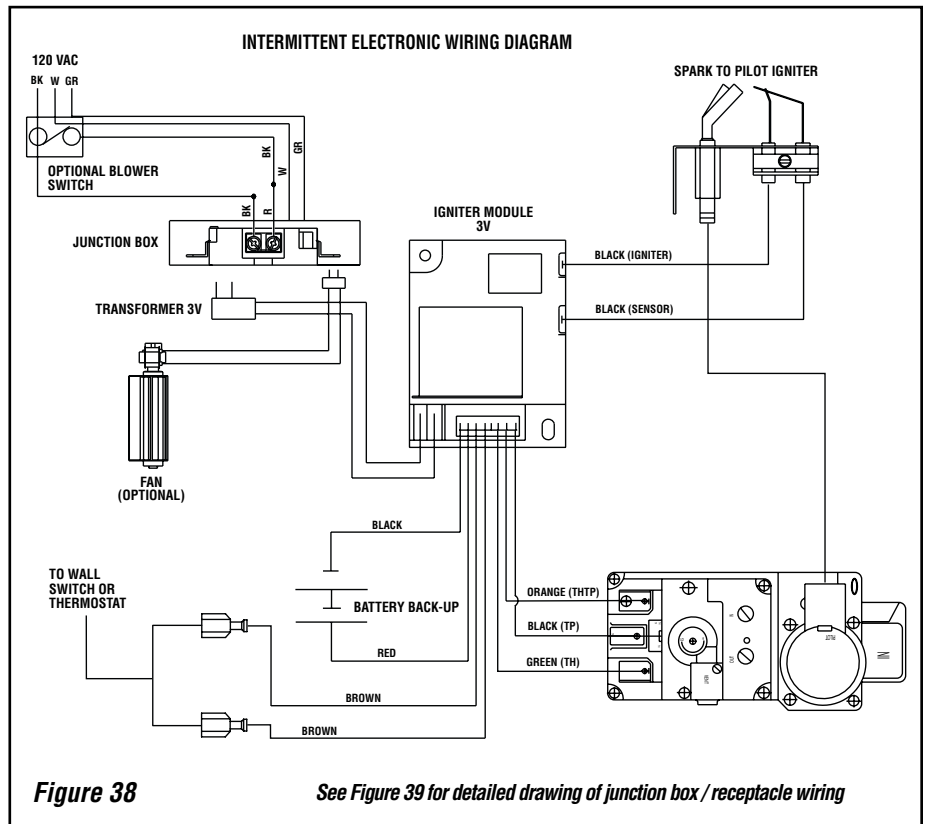

Figure 38
Ground supply lead must be connected to the wire attached to the green ground screw located on the outlet box. See Figure 38. Failure to do so will result in a potential safety hazard. The appliance must be electrically grounded in accordance with local codes or, in the absence of local codes, the National Electrical Code, ANSI/NFPA 70-latest edition. (In Canada, the current CSA C22-1 Canadian Electrical Code).
B. Electronic Wiring (See Figure 38) –
4. Connect the black power supply wire to the lower outlet's red pigtail lead and the white power supply wire to the common terminal of the outlet as shown in Figure 38.
8. If an optional control is to be used, wire it in the low voltage circuit as shown in **Figure 38**.